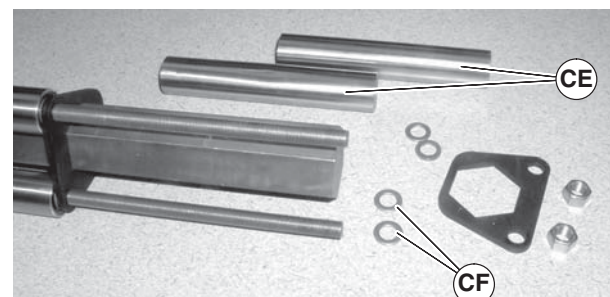

Figure 60
7. Remove pulleys (Figure 60, item CE) and additional washers (CF).